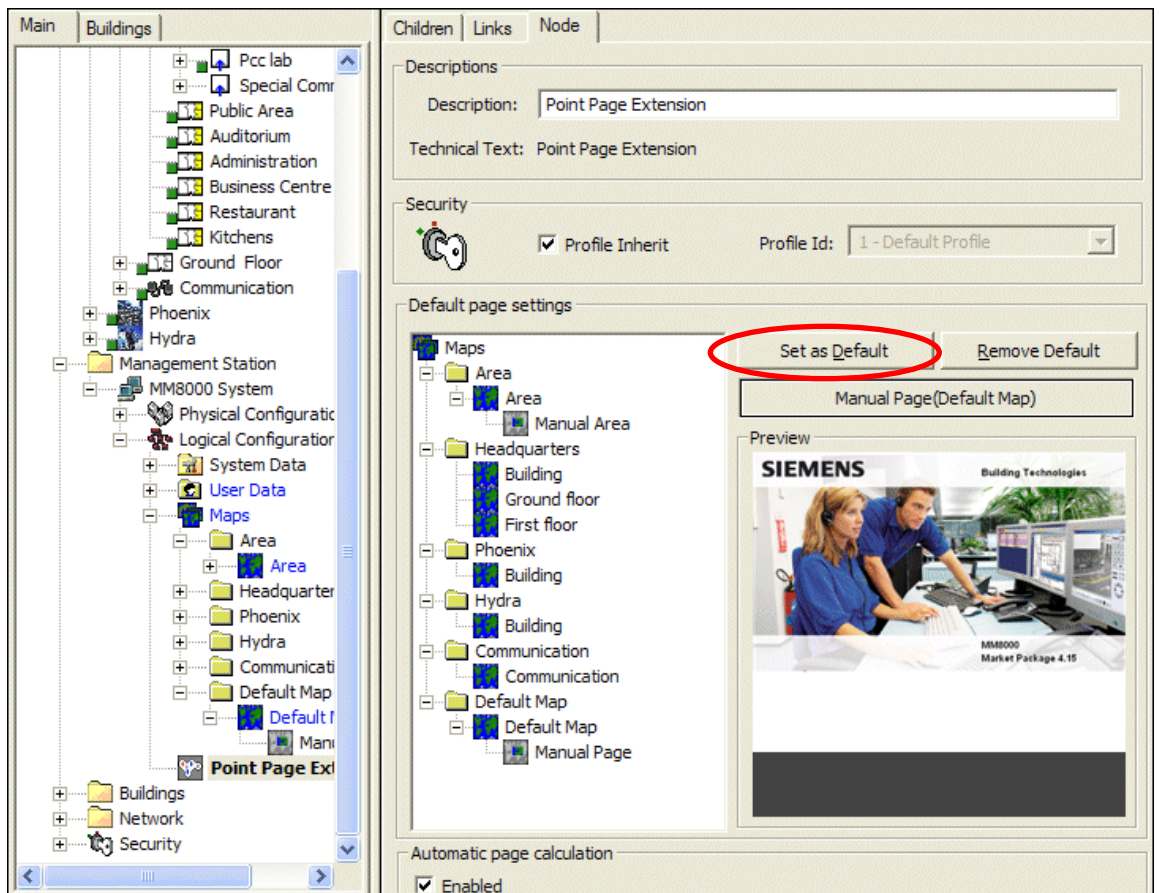

Fig. 31 Setting the general default page
4. Click **Set as Default** (see Fig. 31).